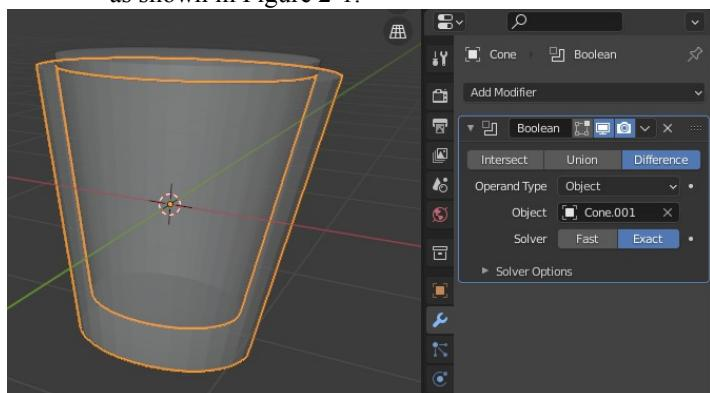

Figure 2-1 Boolean difference modifier using two truncated cones.
2. From **Object ▾ Duplicate Objects**, press **Z**, and move the duplicate slightly upward then scale it down, but ensure the smaller cone protrudes above the top surface of the larger cone, as shown in Figure 2-1.
3. Select the larger cone, click the Modifier Properties tab on the Properties Editor area (blue spanner icon) and **Add Modifier** ▶ **Generate** ▶ **Boolean** (Figure 2-1). Keep the combination type as **Difference**, select the smaller cone (Cone.001) as the object to operate on.